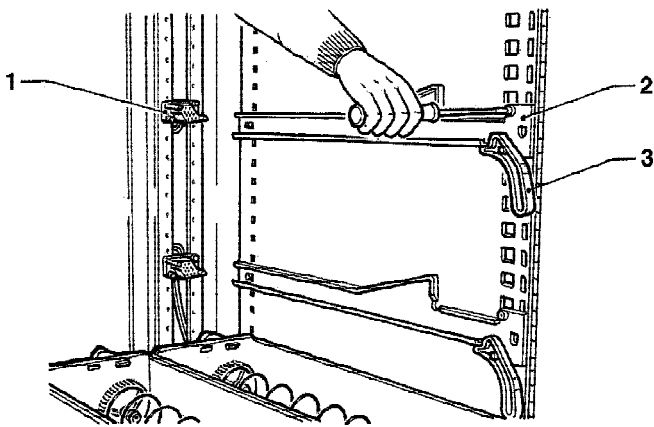

Fig. 15
- Move the guides (see Figure 15) placed on the side supports, except the first ones at the bottom which stay in the same position.